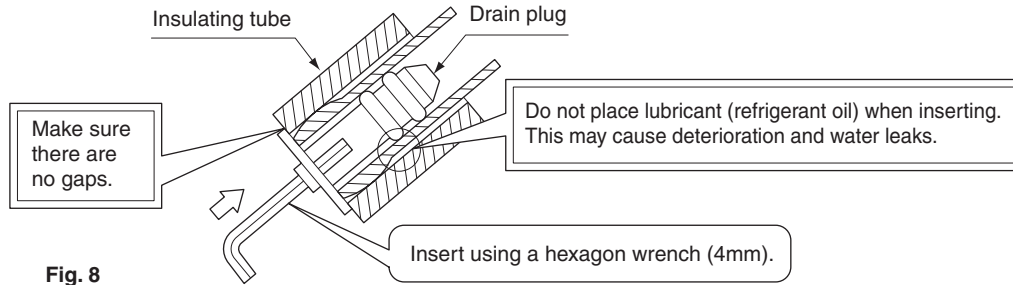

Fig. 8
- Remove the drain plug, the pipe insulation, and the drain hose from the drain pan, referring to **Figure 8**.